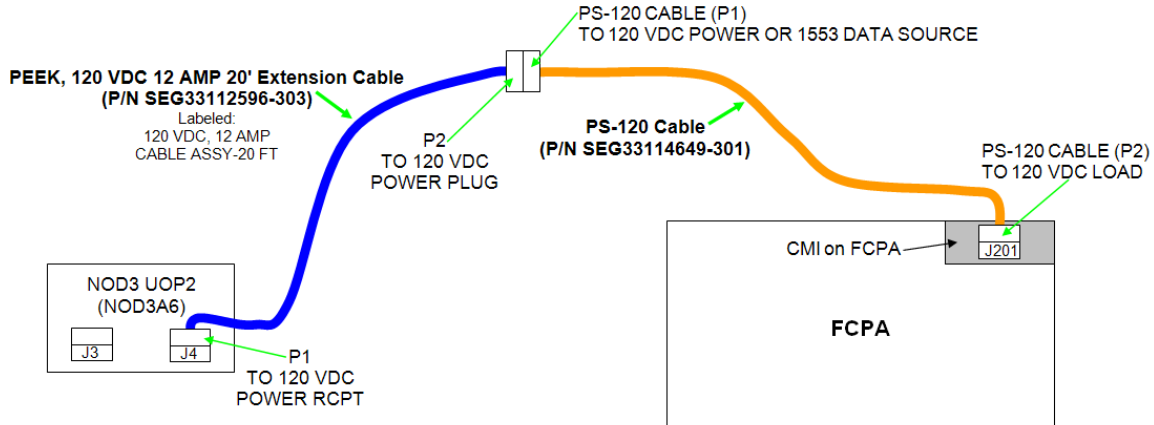

Figure 3.- FSS Power Configuration.
3.2 Configuring Power Cables Per Figure 3
Refer to Figure 3.